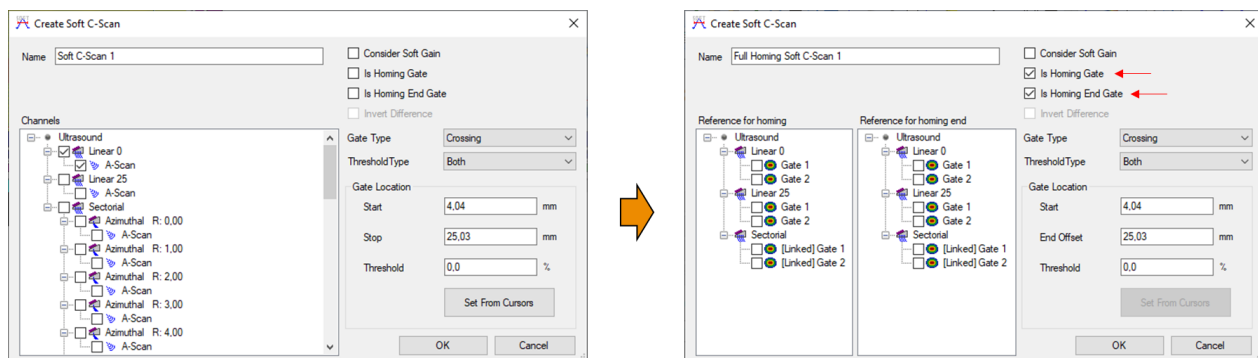

Figure 32: Activating Full Homing mode for Soft C-Scans
3. Check the **Is Homing Gate** and **Is Homing End Gate** checkboxes so that the soft C-Scan will be created in the Full Homing mode. As displayed in Figure 32, once checked: